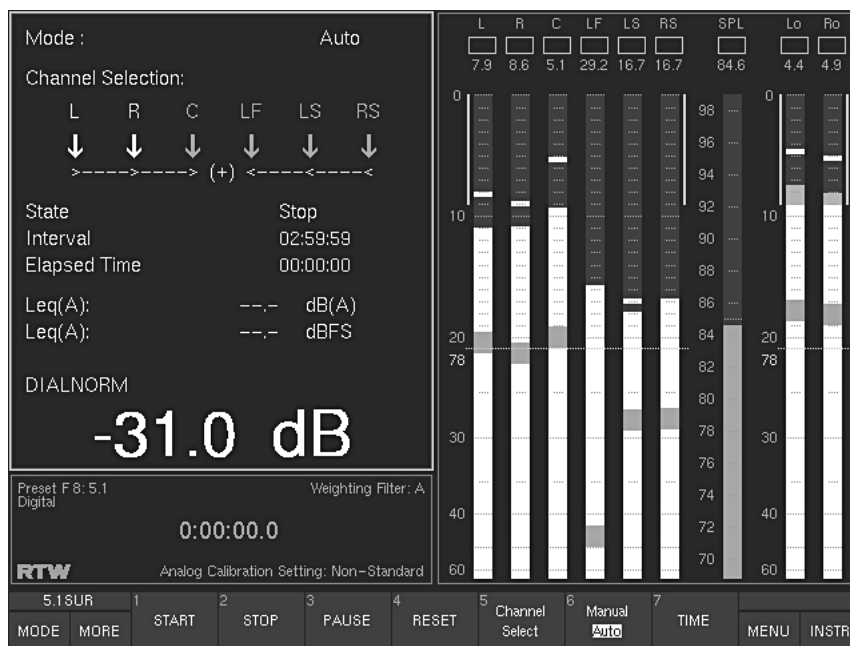

Fig. 5-50: The functions of the DIALNORM instrument displayed in the Toolbar
(Button/key 1, see Fig. 5-50)
(Button/key 2, see Fig. 5-50)
(Button/key 3, see Fig. 5-50)
(Button/key 4, see Fig. 5-50)
(Button/key 5, see Fig. 5-50)
- L + R: L and R channel pair together (Button/key 1)
- C: Centre channel (Button/key 2)
- LF: LF channel (Button/key 3)
- LS + RS: LS and RS channel pair together (Button/key 4)
- Close: Terminates the selection and returns you to the previous layer (Button/key 7)
(Button/key 6, see Fig. 5-50)
(Button/key 7, see Fig. 5-50)